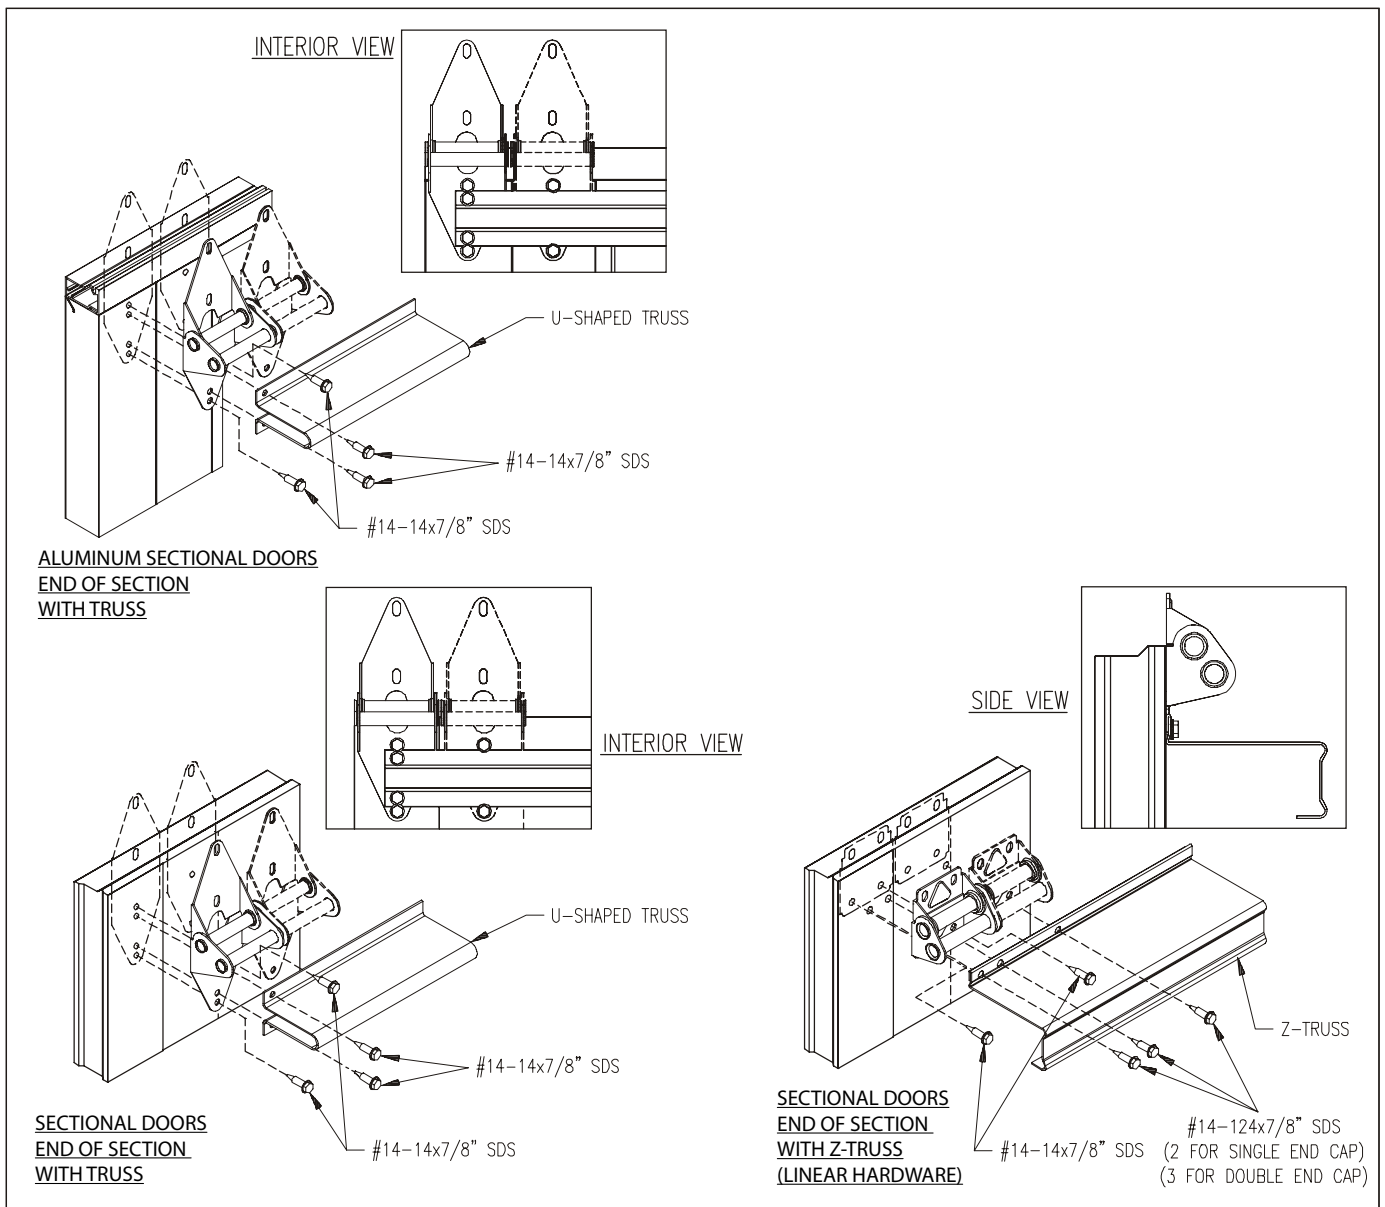

FIG.5
A). IF THE SECTIONAL DOOR HAS BEEN SUPPLIED WITH U-SHAPED HORIZONTAL REINFORCING TRUSSES OR STRUTS (ONE PER SECTION), LOCATE THE TRUSS OR STRUT AT THE TOP ACROSS THE SECTION BETWEEN 2 FASTENERS AT THE BOTTOM HALF OF THE END ROLLER BRACKETS (FIG.5), AND TRUSS CENTRE HINGES (FIG.4), AND SECURE THEM WITH 2 SCREWS.
IF THE SECTIONAL DOOR HAS BEEN SUPPLIED WITH LINEAR HARDWARE, LOCATE THE Z-TRUSS AT THE TOP ACROSS THE SECTION AGAINST BOTTOM EDGE OF THE END ROLLER BRACKET, AND SECURE IT WITH 2 FASTENERS (FOR DOORS WITH SINGLE ENDCAPS) OR 3 FASTENERS (FOR DOORS WITH DOUBLE ENDCAPS) (SEE FIG.5). NEXT, ATTACH THE Z-TRUSS TO THE TRUSS CENTRE HINGE AS PER FIG.4 AND FINALLY FASTEN IT TO THE DOOR SECTION EVERY 24" AT EACH HOLE IN THE TRUSS.
B). IF THE STEEL DOOR HAS BEEN SUPPLIED WITH U-SHAPED TRUSSES OR STRUTS LOCATE THE TRUSS OR STRUT ACROSS THE SECTION BETWEEN THE 2 FASTENERS AT THE BOTTOM HALF OF THE END ROLLER BRACKETS AND INTERMEDIATE HINGES AND SECURE WITH CLIPS PROVIDED. IF NO CLIPS HAVE BEEN PROVIDED LAY STRUT OR TRUSS ACROSS THE SECTION JUST BELOW THE END ROLLER BRACKETS AND INTERMEDIATE HINGES AT THE TOP OF THE SECTION AND SECURE WITH THE SELF DRILLING FASTENERS SUPPLIED SIMILAR AS SHOWN IN FIG.5.